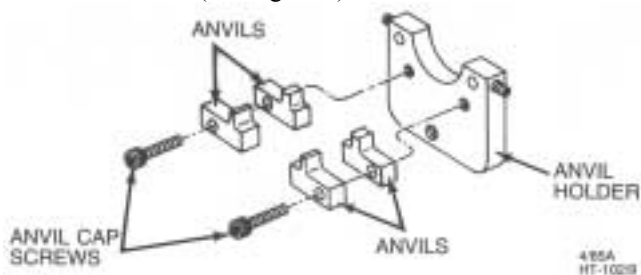

Figure 8
- 3 Remove the cap screw and defective anvil(s) from the anvil holder (see Figure 8).
- 1 Loosely install the new anvils to the anvil holder with the attaching cap screw (See Figure 8).